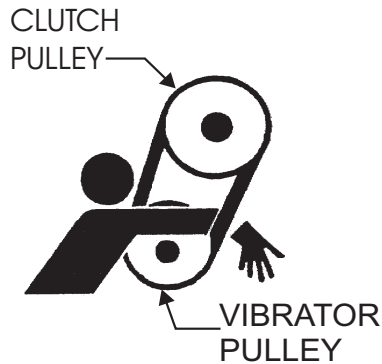

Figure 5. V-Belt Hazard
**NEVER** attempt to check the V-belt with the engine running. Severe injury can occur if your hand (Figure 5) gets caught between the V-belt and the clutch. Always use safety gloves.